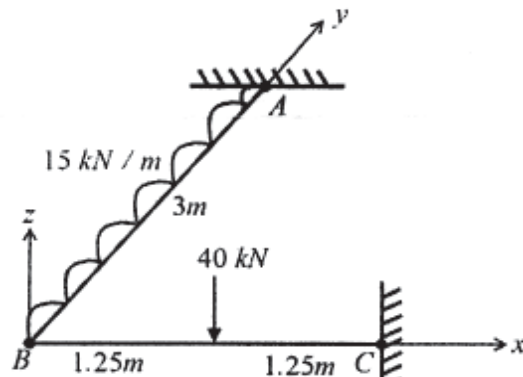

Figure 8
- Q6) a)** Determine the joint displacements of the grid structure ABC as shown in Figure 8 using stiffness matrix method. Take $E = 2.54 \times 10^7 \text{ kN/m}^2$, $G = 8.8 \times 10^6 \text{ kN/m}^2$, $I = 3.188 \times 10^{-3} \text{ m}^4$ and $J = 2.230 \times 10^{-3} \text{ m}^4$. [16]